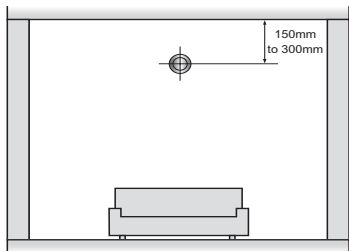

Fig.2
- the top of the detection element is between 150mm and 300mm below the ceiling (see Figure 2);